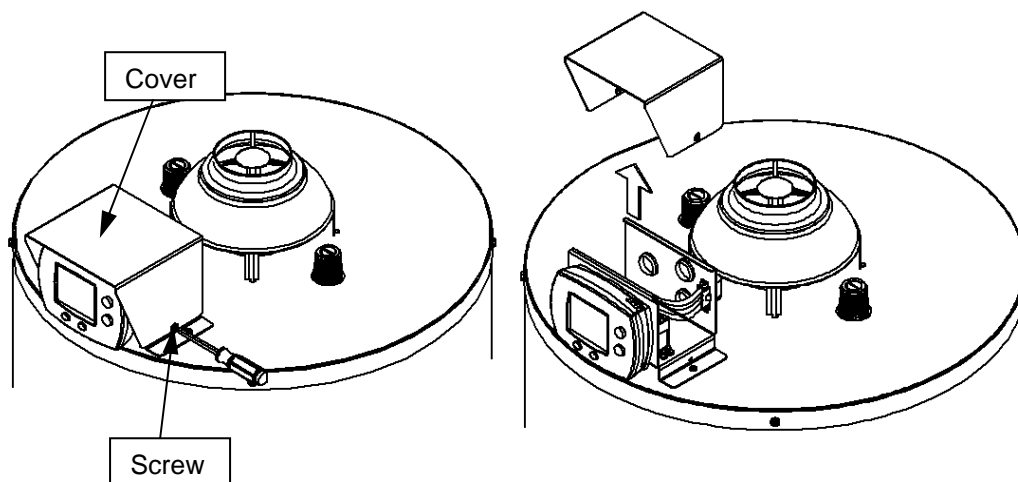

Figure 30
Step 2: Remove Setback Control Junction Box Assembly cover by unscrewing the two Philips head screws holding it to the Setback Control Junction Box Assembly base. Retain these screws for later use. Remove the cover. This process is shown in Figure 30.